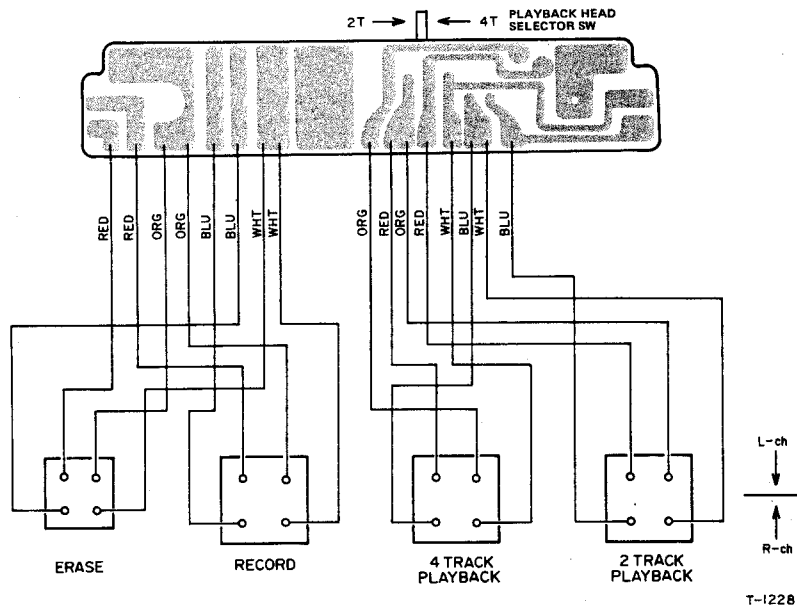

Fig. 6-4 Head Wiring
3. Remove 2 mounting nuts through access slot in head base plate and dis-connect head wires. See Fig. 6-4.